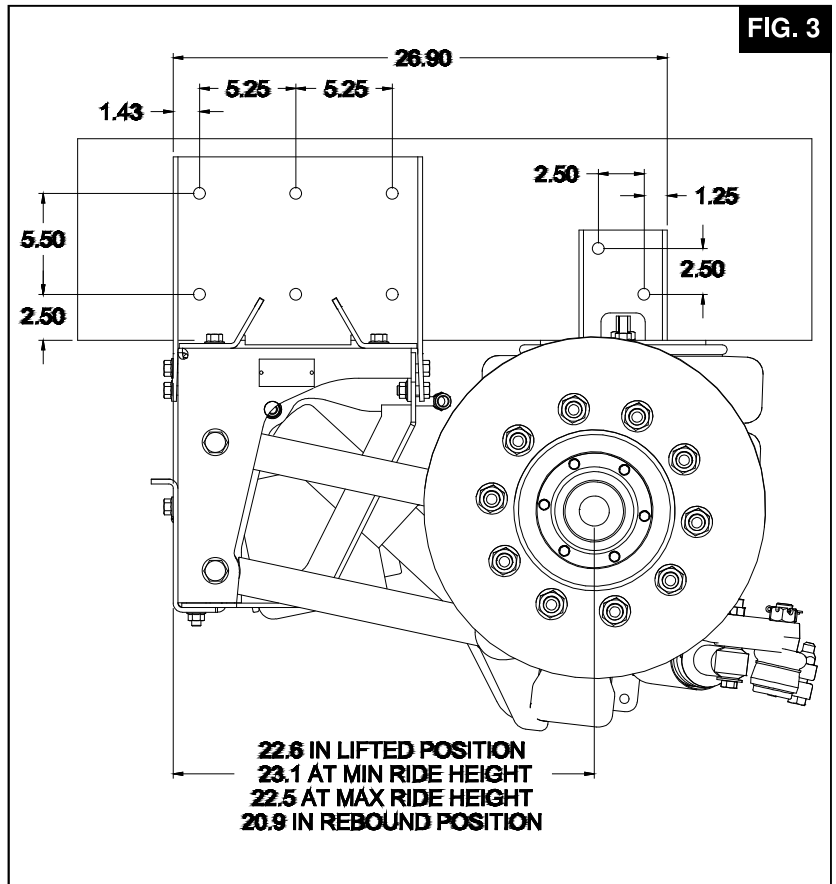

FIG. 3
10.3 Once the frame brackets are clamped tightly to the outside and bottom surfaces of the truck frame, check all clearance issues and then center punch all mount holes. (See **Fig. 3** for recommended mount hole location.)